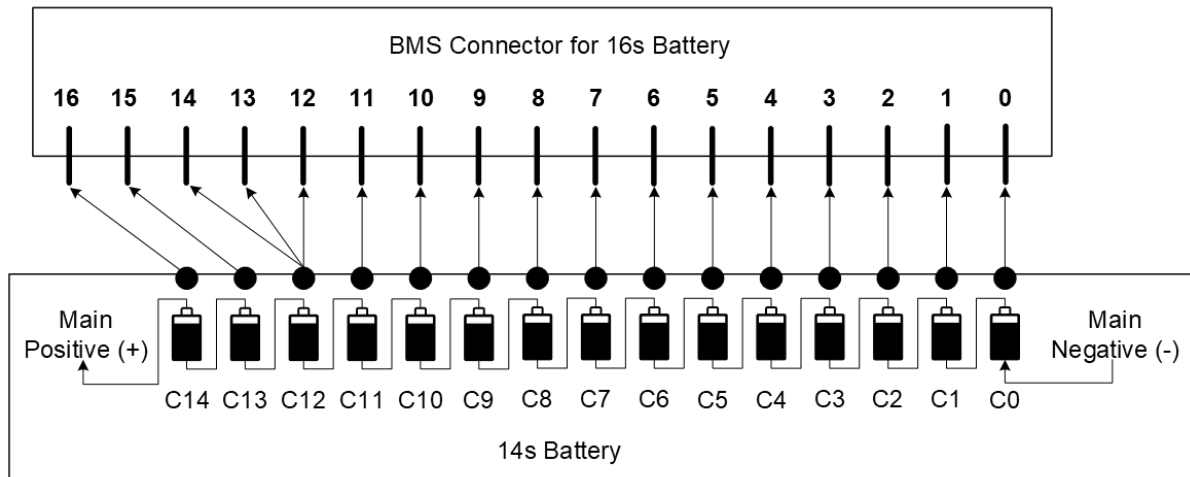

Figure 5 BMS 16s Connect to A 14-Cell Battery.
4.	<p>Temperature monitoring is crucial for hardware safety. The BMS Pro measures:</p> <ul style="list-style-type: none"> <li>FET temperature</li> <li>Internal DIE temperature</li> <li>Four external thermistor temperatures (connected during battery assembly)</li> </ul> <p>These values are available in the Battery Temperature tab on the Battery Summary page (see Figure 5).</p>
5.	<p>To view individual temperature readings, tap on the Max Temperature tile in the FET Temperature section. The user can monitor:</p> <ul style="list-style-type: none"> <li>Thermistors 1 to 4</li> <li>Internal DIE temperature</li> <li>FET temperature (see Figure 5).</li> </ul>
6.	The Temperature Indication icon changes colour based on different temperature ranges (as shown in Figure 5 ).